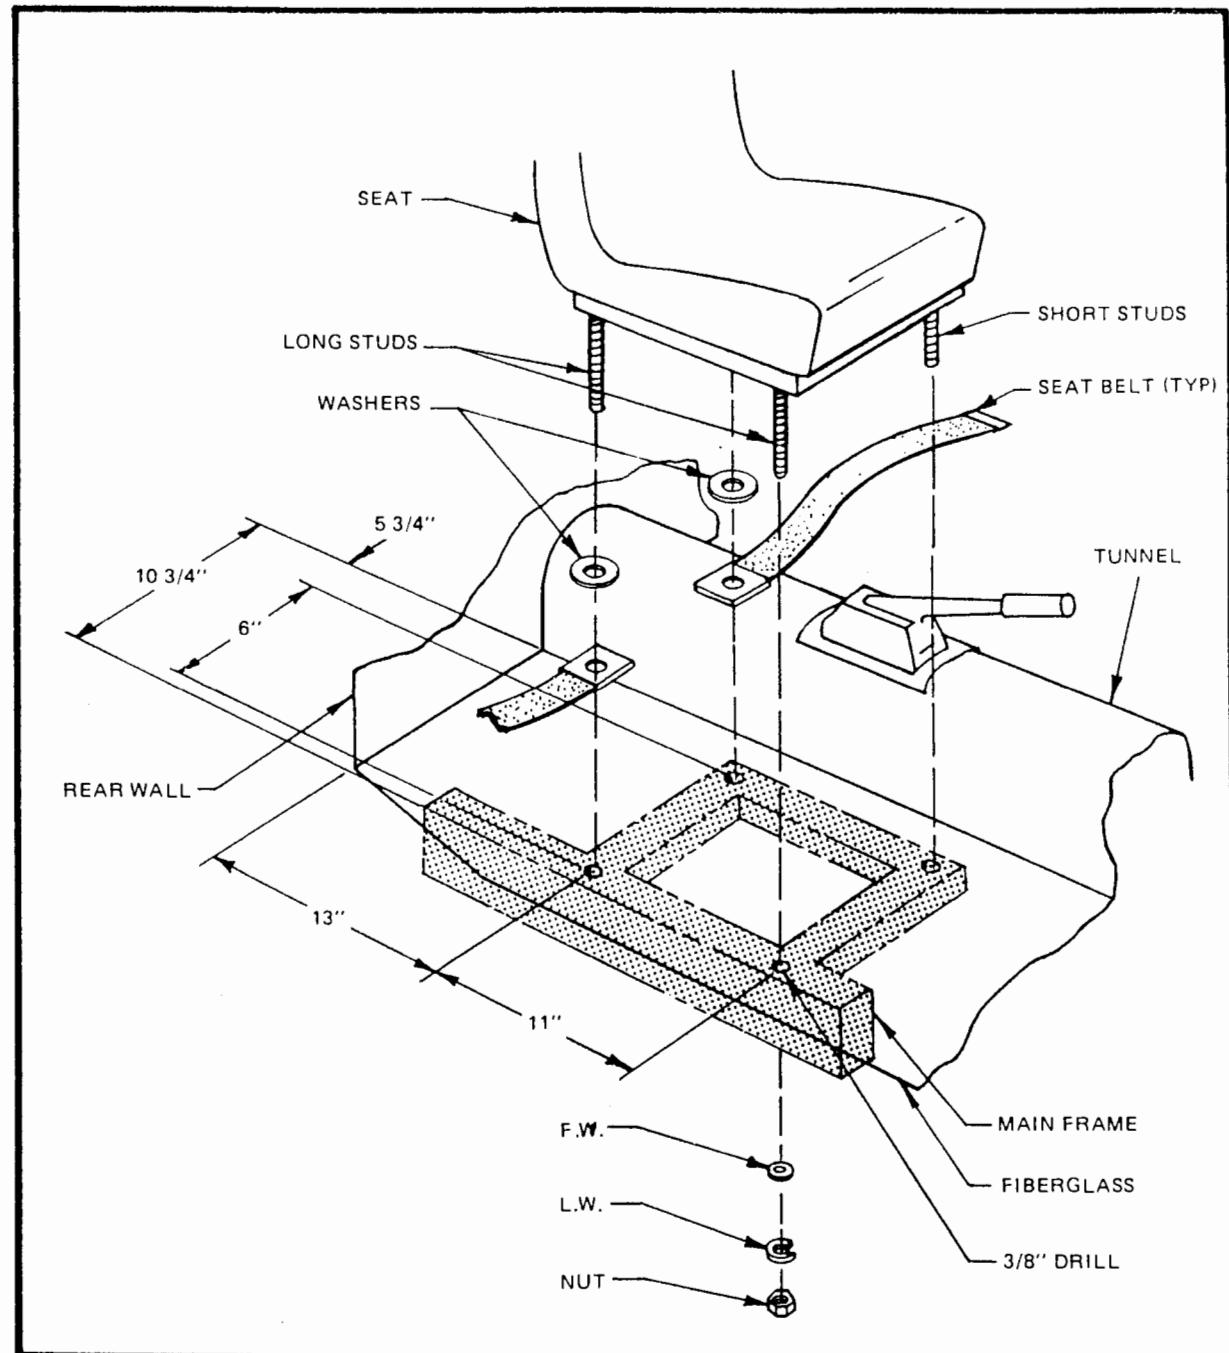

Figure 13
- While the stock Chevette seat belts can be used, if the brackets are strengthened, we use smaller belts on the assembly. Available from our factory, these belts are installed with the seats. The car seat studs pass through holes in the brackets at the end of the belts. (Figure 13)
SEAT INSTALLATION (Refer to Figure 13)
- Locate the seat as shown in Figure 13.